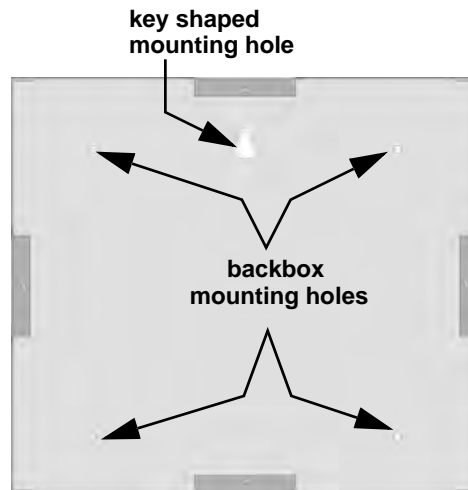

Figure 4.14 Backbox Surface Mount Holes
- To properly mount the backbox, insert a single screw into the key shaped mounting hole. Do not tighten all the way. See Figure 4.14. Place a level on top of the backbox, with the backbox level insert the rest of the mounting screws.